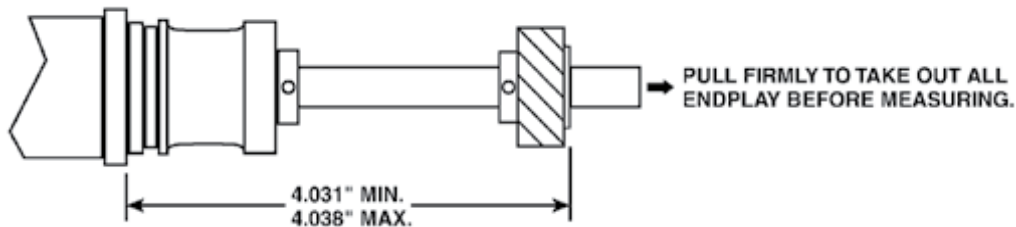

Fig. 1
- STEP 6:** Pull distributor shaft out of distributor housing to eliminate endplay (see Fig. 1).
- STEP 7:** Check location of distributor gear on distributor shaft (see Fig. 1). If it is not in the correct location, use a press to move the gear to the correct location.
**NOTE:** It is important that the dimensions called out in Fig. 1 are maintained while drilling.
- STEP 9:** Insert roll pin and check dimensions (see Fig. 1).